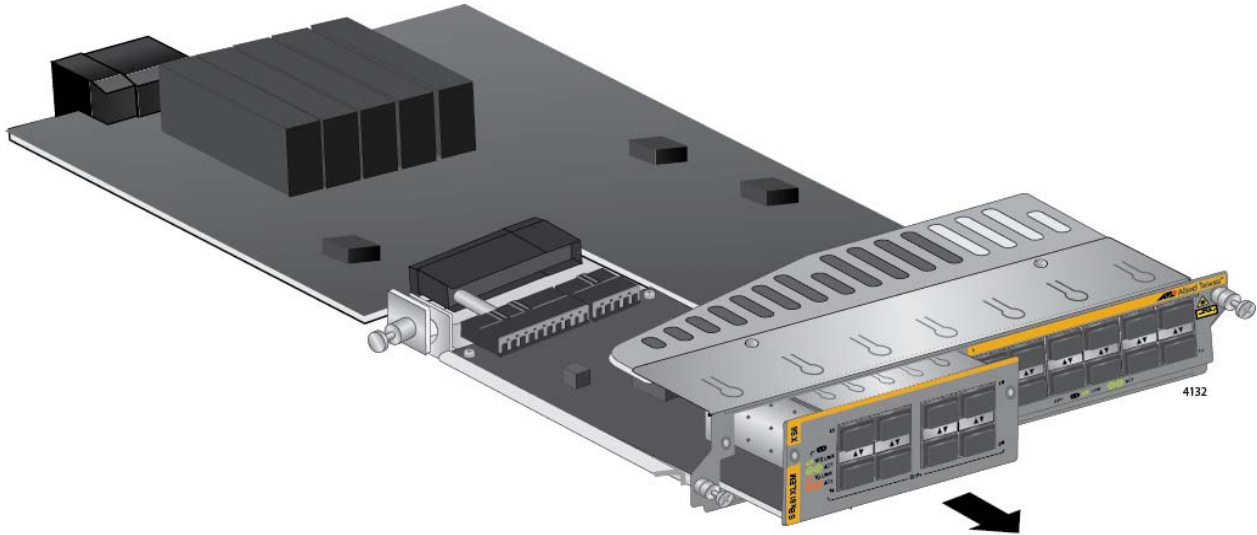

Figure 175. Sliding the Expansion Module from the AT-SBx81XLEM Line Card
6. Slide the expansion module from the line card. Refer to Figure 175 on page 279.